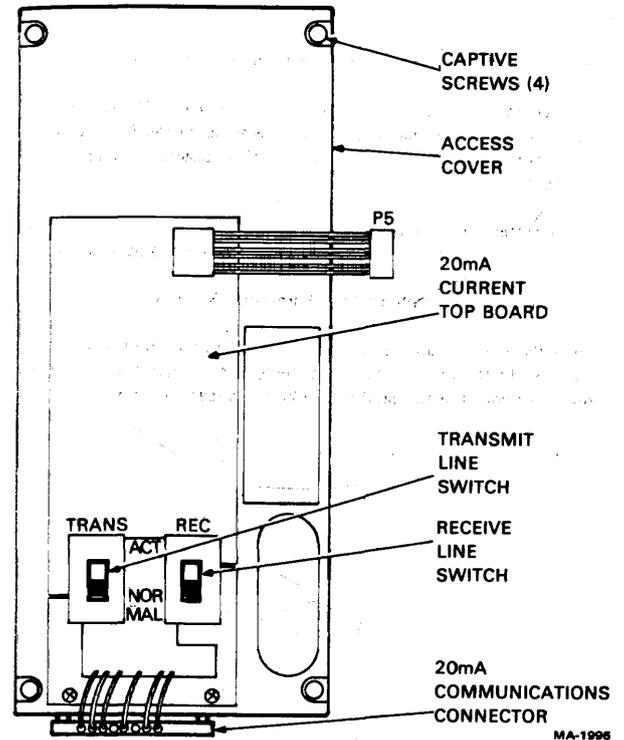

Figure 6-2 20 mA Current Loop Option
3. Set the TRANS switch to the NORMAL position (Figure 6-2). (If the terminal must provide current on the transmit line set the switch to the ACT position.)
4. Set the REC switch to the NORMAL position (Figure 6-2). (If the terminal must provide current on the receive line set the switch to the ACT position.)